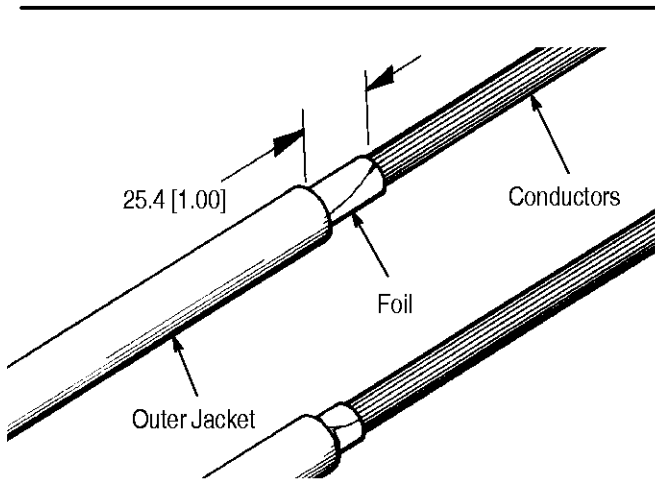

Figure 4
3.3. Foil Shield Application (Figure 4)